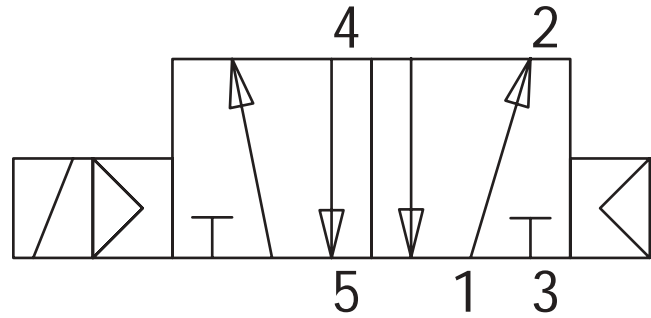
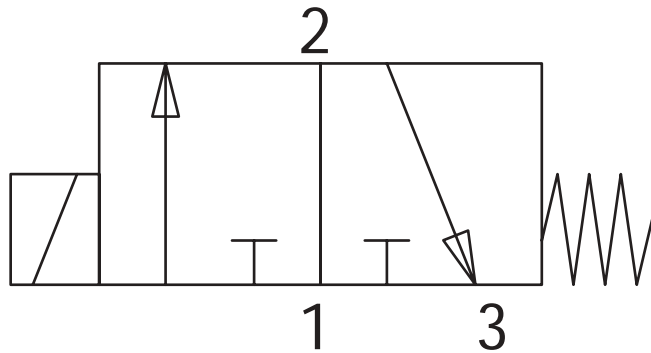
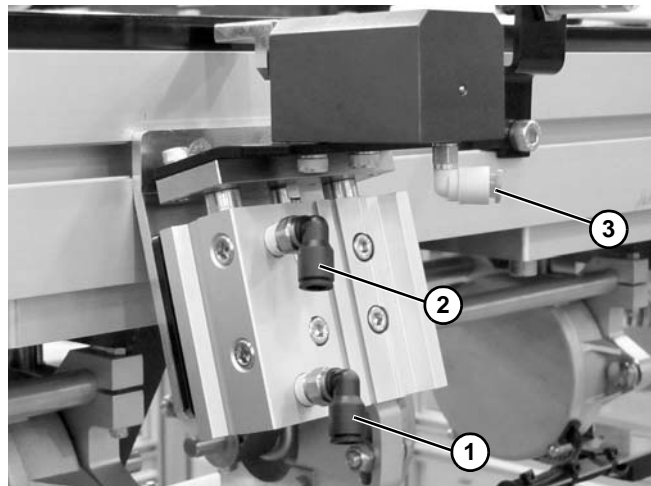

Figure 46
Figure 47
Figure 48
Dorner recommends using a 5 port, 2 way solenoid valve (**Figure 46**) to operate stop height.
Dorner recommends using a 3 port, 2 way solenoid valve (**Figure 47**) to operate cushion reset.
1. Connect port 4 (**Figure 46**) of the 5 port, 2 way valve to the lower port (**Figure 48, item 1**) on the lift. Dorner fittings accept 1/4" outside diameter tubing standard
2. Connect port 2 (**Figure 46**) of the 5 port, 2 way valve to the top port (**Figure 48, item 2**) on the lift. Dorner fittings accept 1/4" outside diameter tubing standard.
3. Connect port 2 (**Figure 47**) of the 3 port, 2 way valve to the cushion reset port (**Figure 48, item 3**).